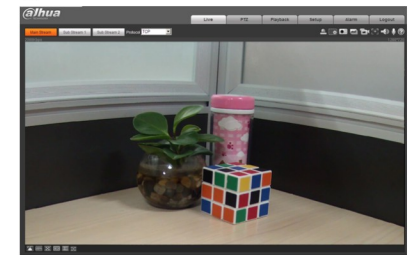

Figure 4-4
- Step3 Install controls according to the system prompt; see Figure 4-4 for the WEB main interface. Please modify the administrator password as soon as possible after you successfully logged in.